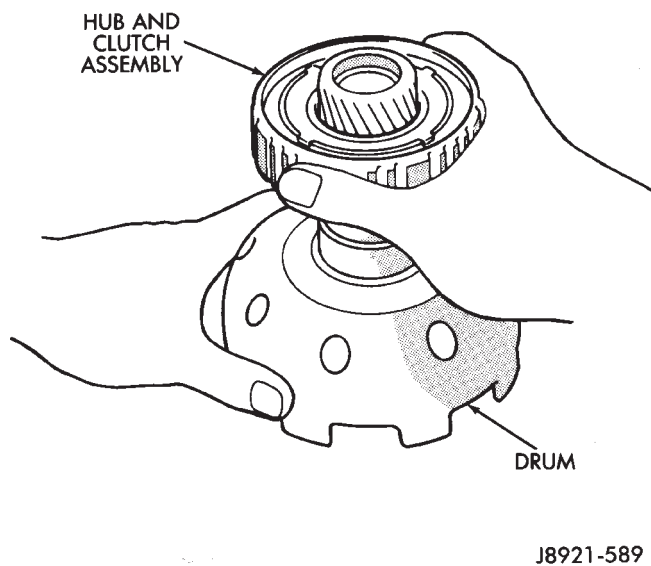

Fig. 3 Removing/Installing Brake Hub And Clutch Assembly
(2) Remove one-way clutch/second brake hub assembly from drum (Fig. 3).